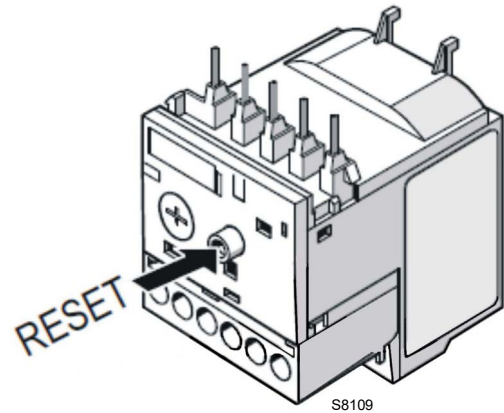

Fig. 31
- To reset, in the case of an intervention of the electronic relay, press the button **"RESET"** (Fig. 31).